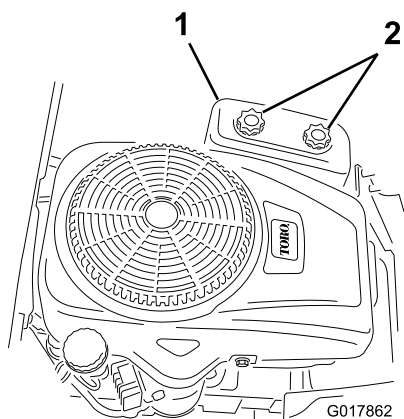

Figure 16
3. Remove the air-cleaner cover by unscrewing the 2 knobs (Figure 16).
4. Install the air-cleaner cover and tighten the 2 knobs (Figure 16).